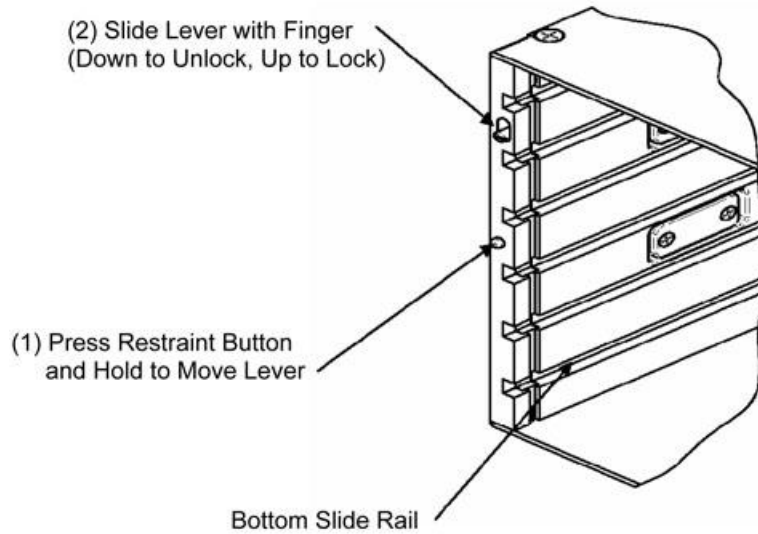

Figure 4. Payload Retainer
- 5.9 Lock tray in place by using MERLIN restraint mechanisms on both sides of internal volume. Refer to Figures 4 and 5. Press restraint button flush on each side of internal volume.